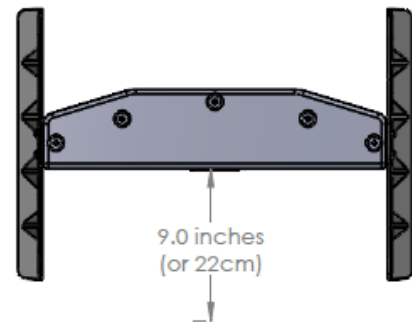

Figure 10 Marking a 9" point from the center of the device
- Mark this distance on the floor (*see Figure 10*).